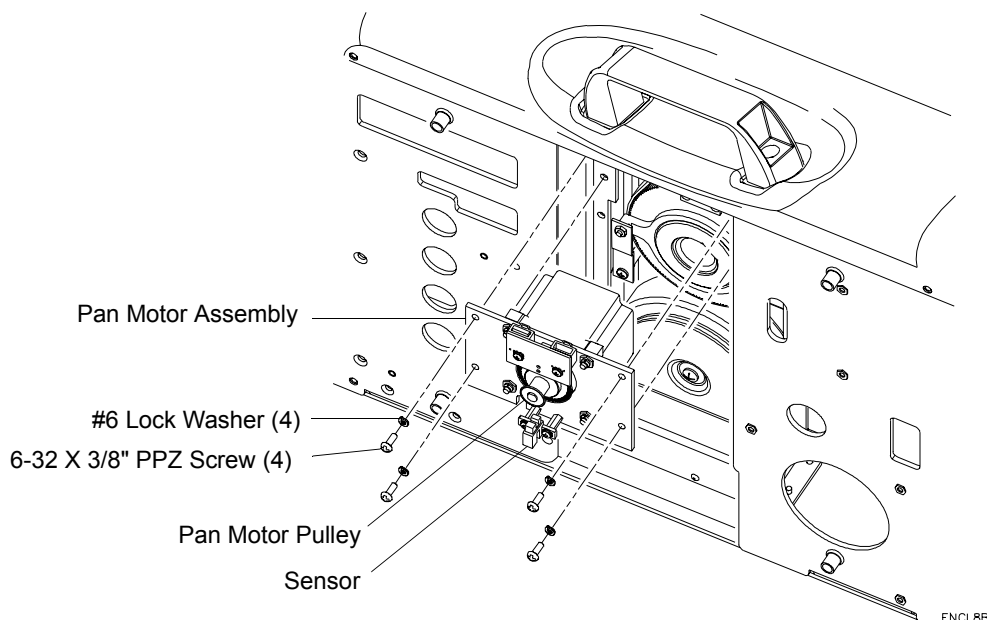

Figure 2-27: Pan Motor Assembly Replacement
Step 5. At pan motor assembly, remove four 6-32 X 3/8" PPZ screws and four #6 lock washers (**Figure 2-27**).